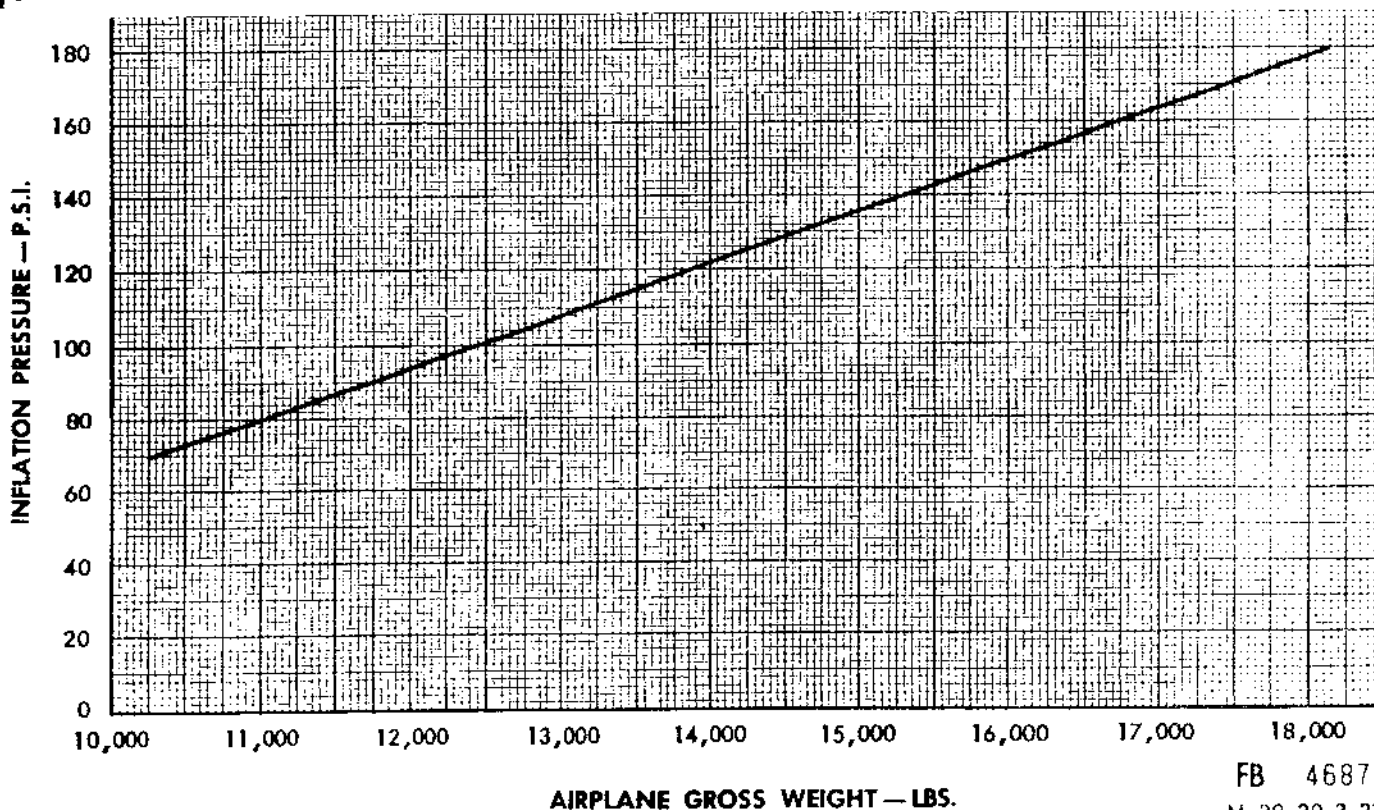

Figure 23 — Main Gear Tire Pressure Versus Airplane Gross Weight
a. Inflate nose gear 8-ply tire to 80 psi (6-ply tire to 60 psi) for all weight conditions. See figure 23 for main gear tire pressures versus airplanes gross weight.